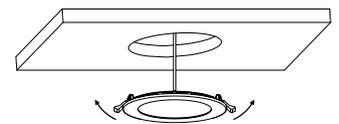

Fig. 4
12. Push spring loaded clips on the fixture upwards and insert the fixture base into the cut-out hole (Fig. 4).